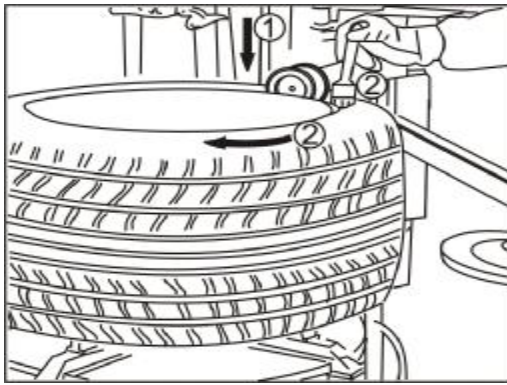

Fig.21
- I Draw out the roller and make it close to the tyre bead. Press down the control lever to move the roller downward 3-5cm, depress the pedal "⊕" to turn the turntable clockwise lubricating the tyre bead by a brush (fig.21).